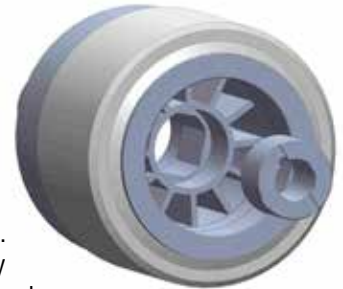

figure 26
2. Start the rear bushing into bore of impeller while lining up the four flats on the bushing with the flats in the impeller drive. The interrupted face end of the bushing should be facing up. Press the bushing into the impeller bore with a 1-3/4" diameter soft-faced arbor. See figure 26.